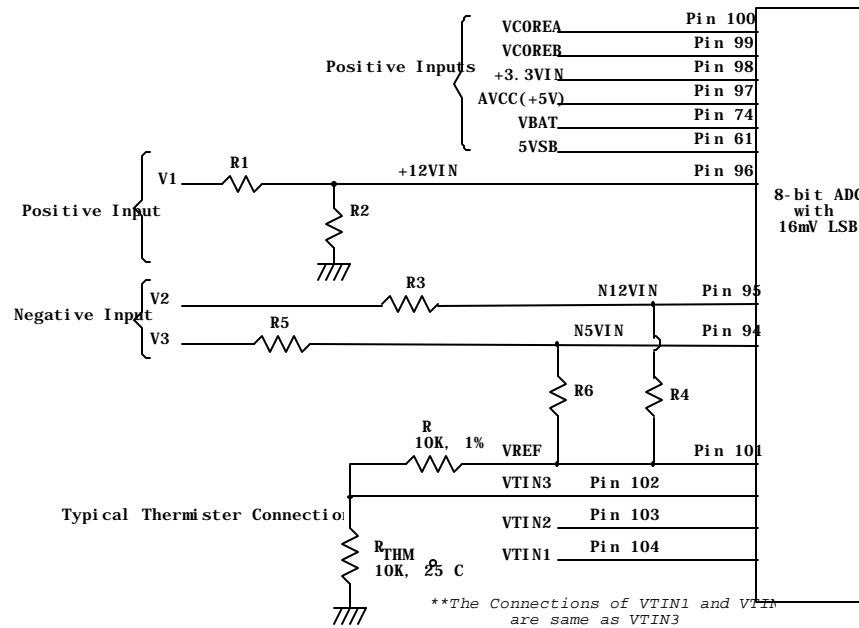

Figure. 2.2
The maximum input voltage of the analog pin is 4.096V because the 8-bit ADC has a 16mV LSB. Really, the application of the PC monitoring would most often be connected to power suppliers. The CPU V-core voltage, +3.3V, battery and 5VSB voltage can directly connected to these analog inputs. The +12V, -12V and -5V voltage inputs should be reduced a factor with external resistors so as to obtain the input range. As Figure 2.2 shows.
The W83627HF can connect three thermistors to measure three different environment temperature. The specification of thermistor should be considered to (1)  $\beta$  value is 3435K, (2) resistor value is 10K ohms at 25°C. In the Figure 2.2, the thermistor is connected by a serial resistor with 10K Ohms, then connect to VREF (Pin 101).